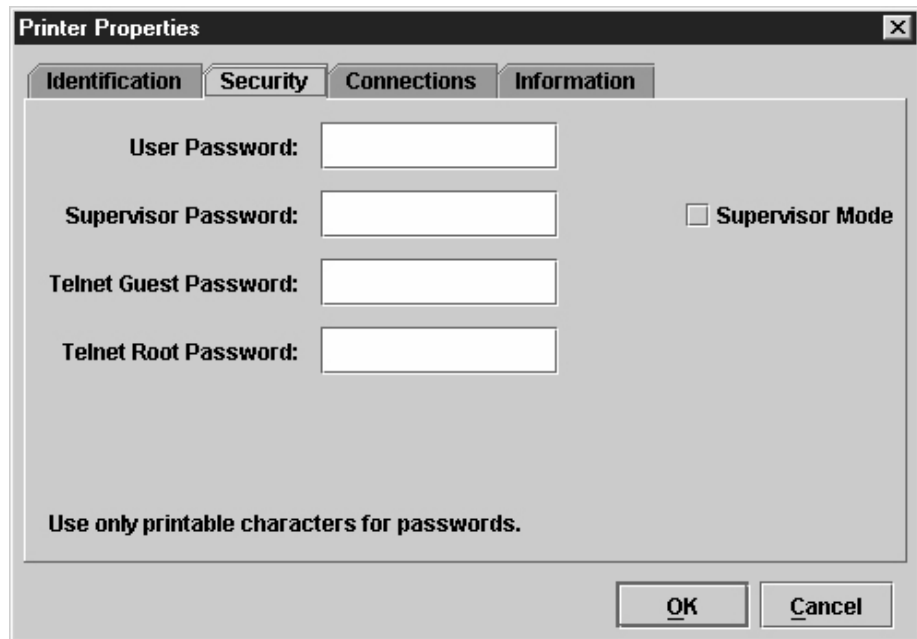

Figure 3. Printer Properties: Security Tab
6. Click the **Security** tab. See Figure 3.